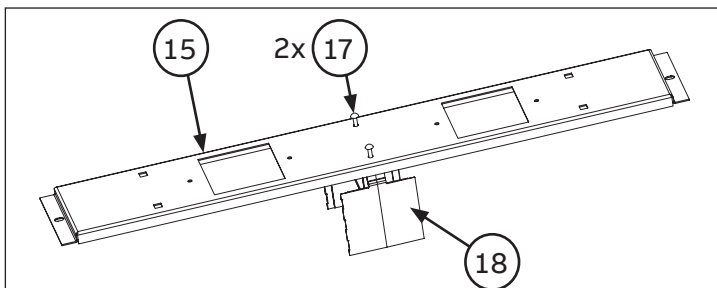

Figure 10. Attaching the center barrier to the filler cover
Attach the center barrier (18) to the filler plate (15). Use two push-in rivets (17) with mild hammering, as shown in figure 10.